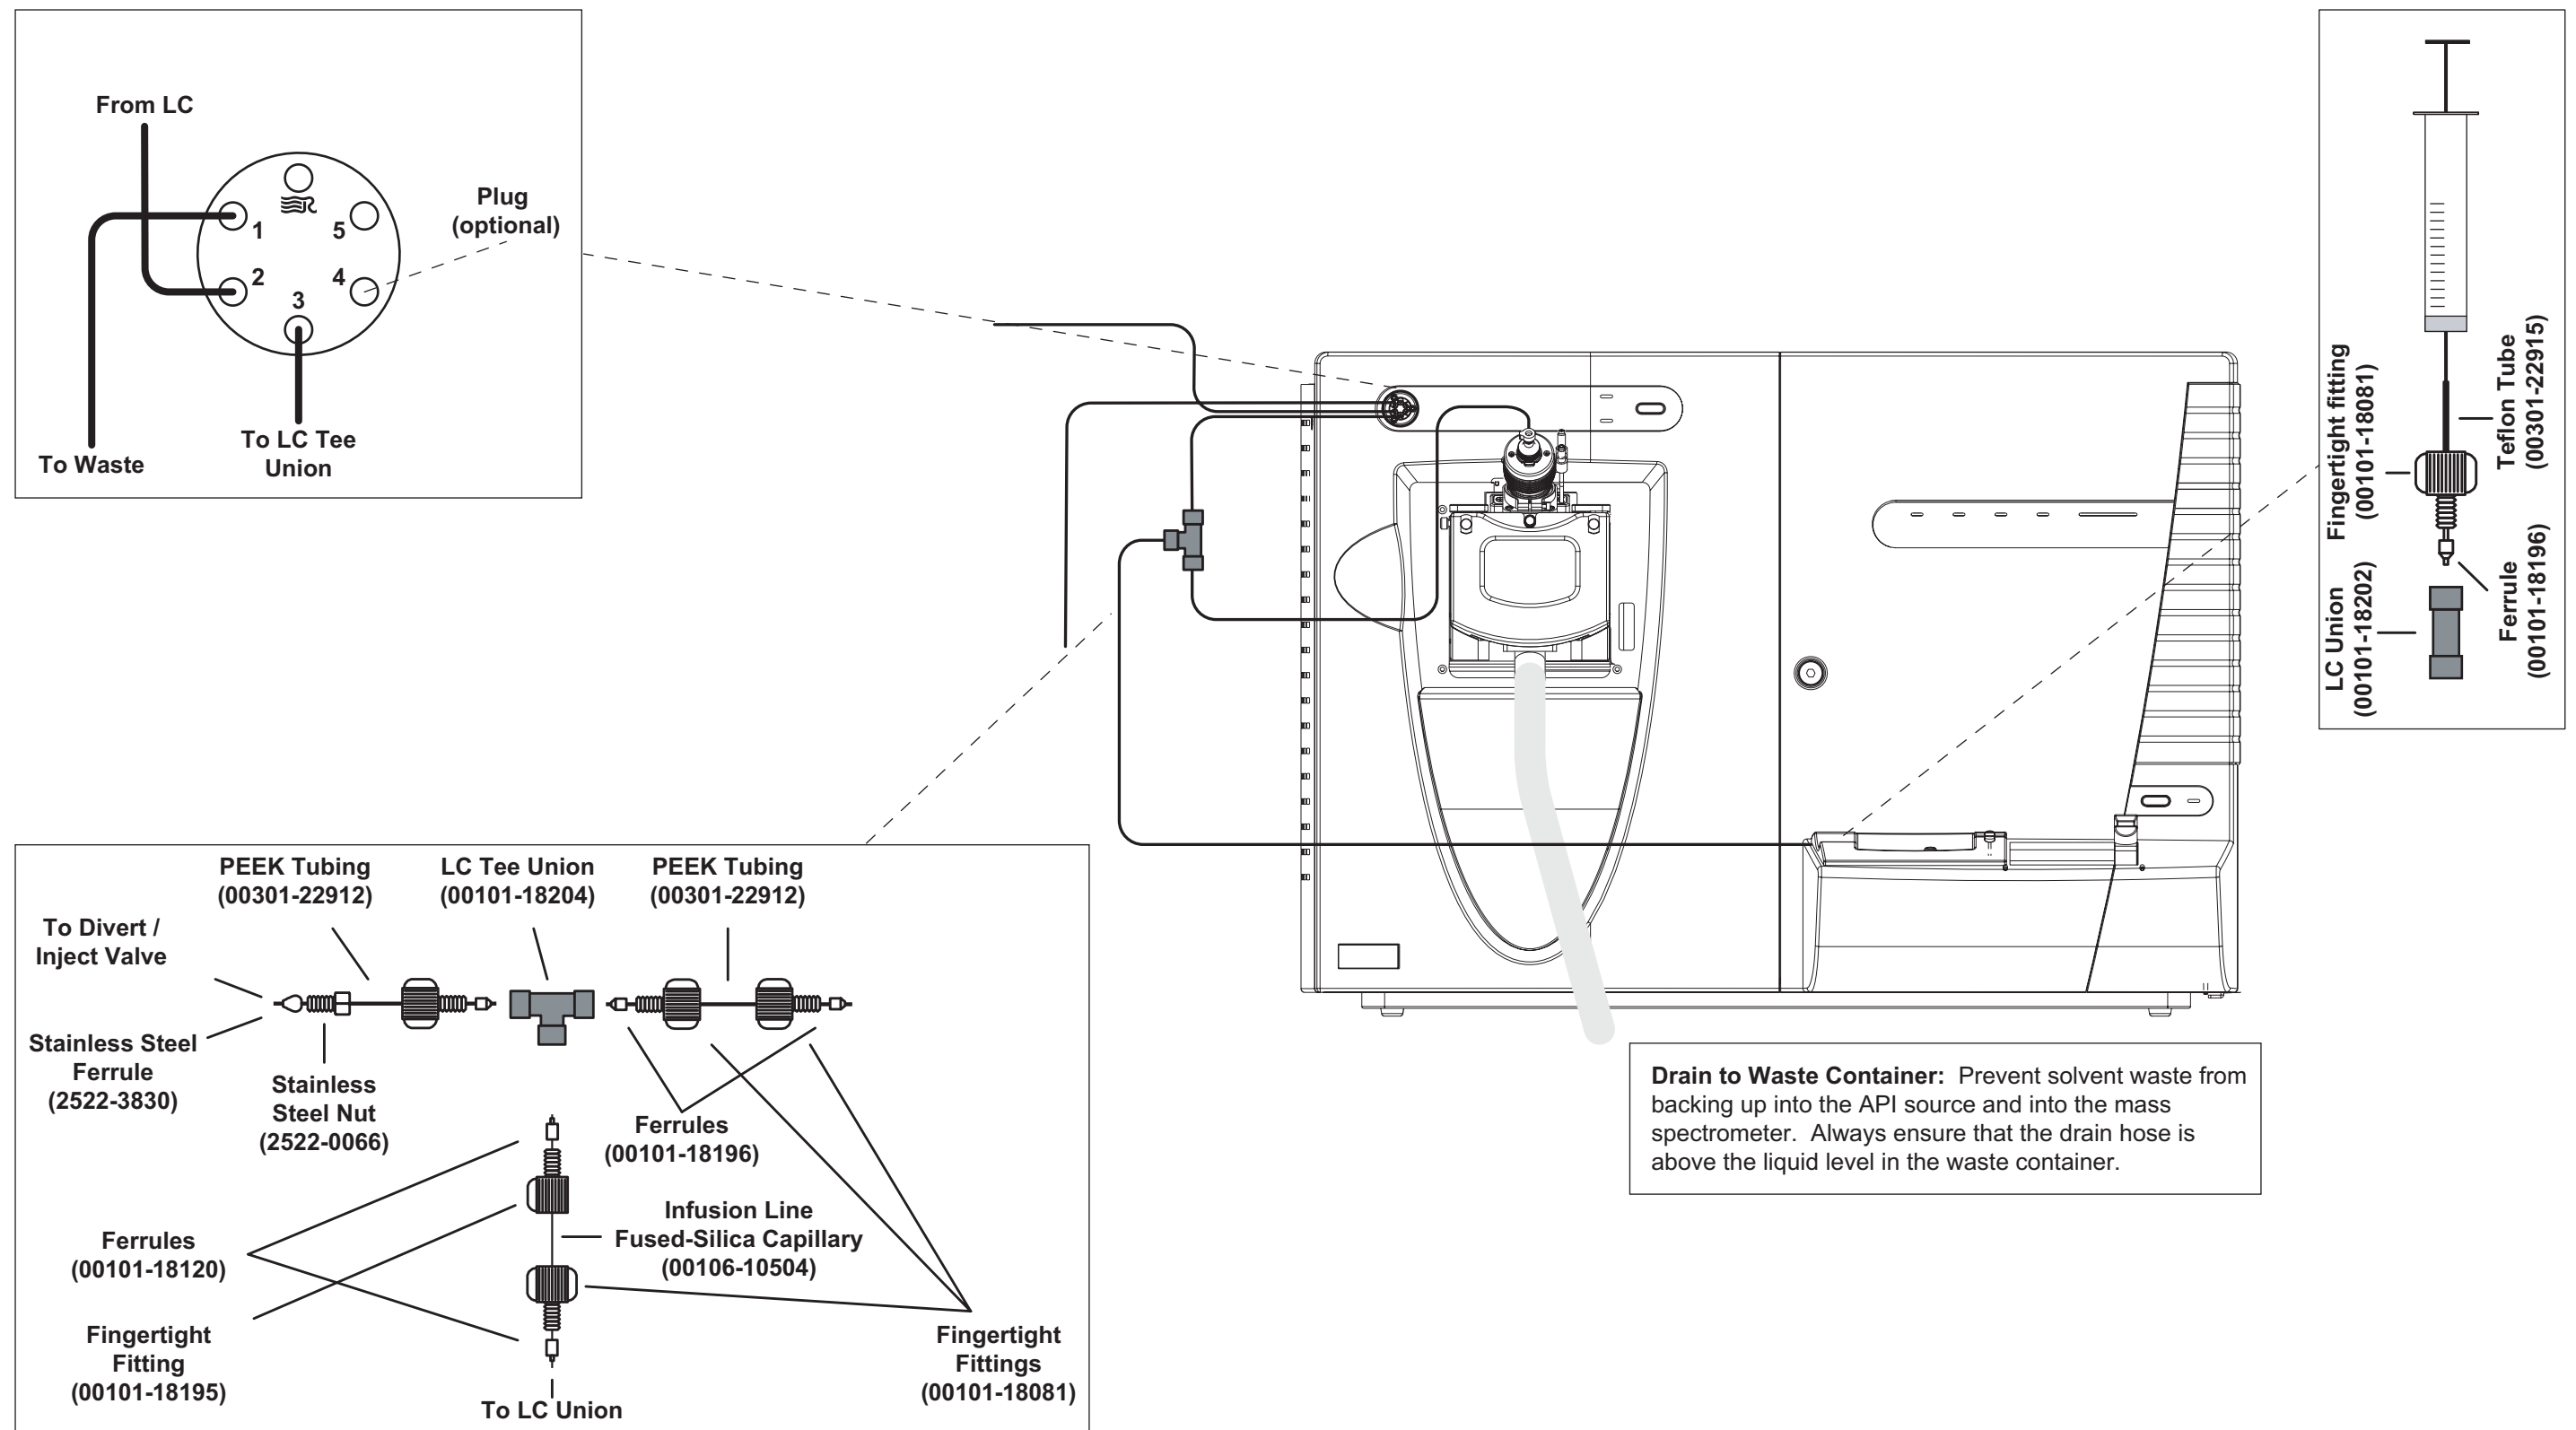

Figure 11-6. Plumbing diagram showing APCI/MS sample introduction from the syringe pump connected via an LC TEE into the solvent flow from an LC
- Figure 11-6. Plumbing diagram showing APCI/MS sample introduction from the syringe pump connected via an LC TEE into the solvent flow from an LC